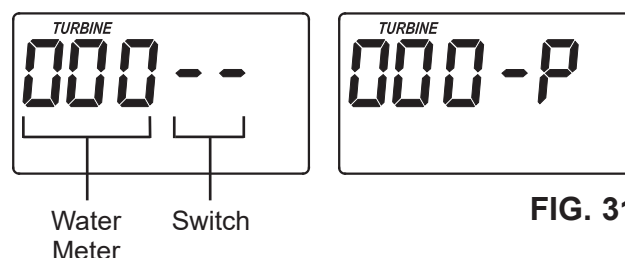

FIG. 31
1. Press and hold for 3 seconds the SELECT button, until one of the screens shown in Figure 31 is displayed. If the valve is in service, fill, brining, backwash or fast rinse position (observe markings on the valve cam), the display should show "000 - -", meaning the position switch is open. When the valve is moving, the display should show "000 - P", meaning that the position switch is closed.
2. The first 3 digits of the display in Figure 31 should count upward whenever water is flowing through the system.